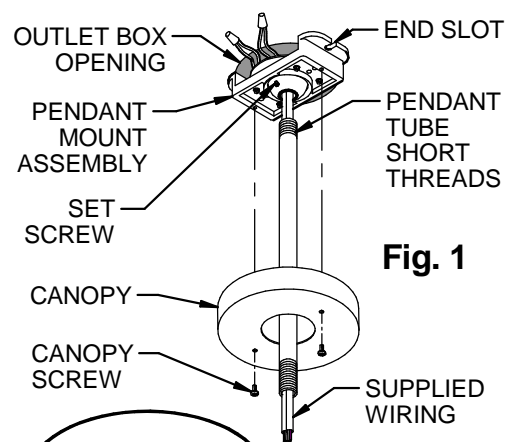

Fig. 1
1. Unpack the pendant mount assembly and the pendant tube from the cylinder carton. Remove the canopy by removing the two screws holding it to the pendant mount assembly. Assemble the short threaded end of the pendant tube to the swivel ball in the pendant mount assembly, and tighten the setscrew so the pendant tube will not unthread from the swivel ball. Insert the power wiring (and control wiring, if needed) through the pendant tube as shown. Make the ground connection to the ground screw on the pendant mount assembly, and secure the assembly to a properly installed 3-1/2" or 4" octagonal box (by others) designed to support the weight of the fixture (**Fig. 1**). **NOTE:** The end slots in the casting are provided for additional structural mounting security. Additional bolts attached to the building structure through these slots are recommended for applications where vibration may be encountered.